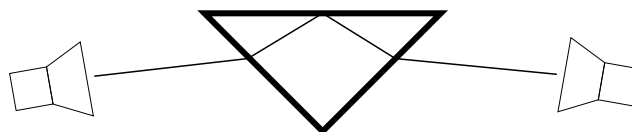

Figure 6: Total internal reflection of microwaves through the wax prism.
8. Use one of the wax prisms to demonstrate total internal reflection. Describe in detail how you demonstrated the phenomenon of total internal reflection, see Figure 6.